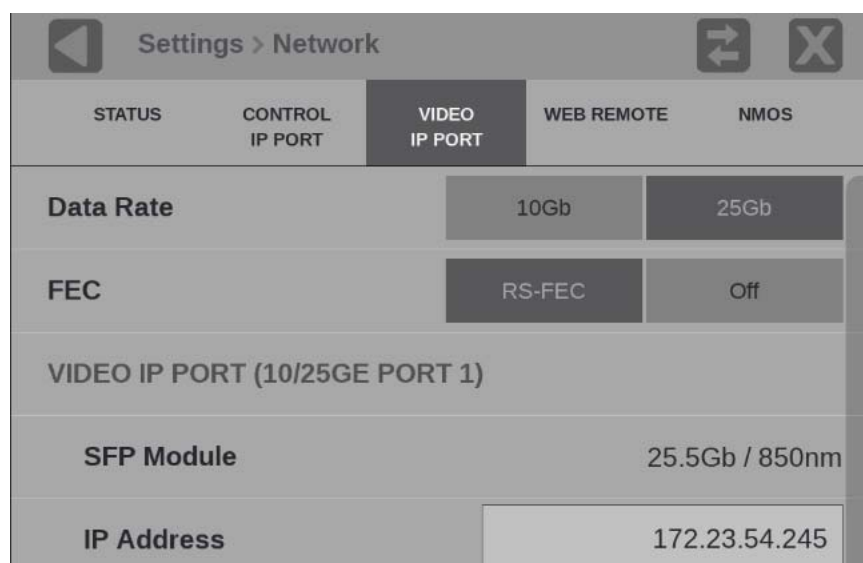

Figure 36: VIDEO IP PORT submenu
5. Select **RS-FEC** if Forward Error Correction (FEC) is needed. RS-FEC is specified by IEEE 802.3 Clause 91.(See Figure 36.)